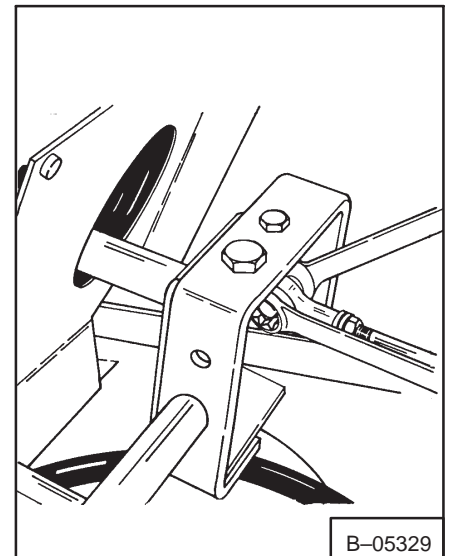

Fig. 3-6 Disconnect Auxiliary Linkage
4. Connect the auxiliary linkage at the right steering lever (Fig. 3-6). Adjust the linkage so when the steering lever is moved, for loader travel, the linkage does not move in or out.